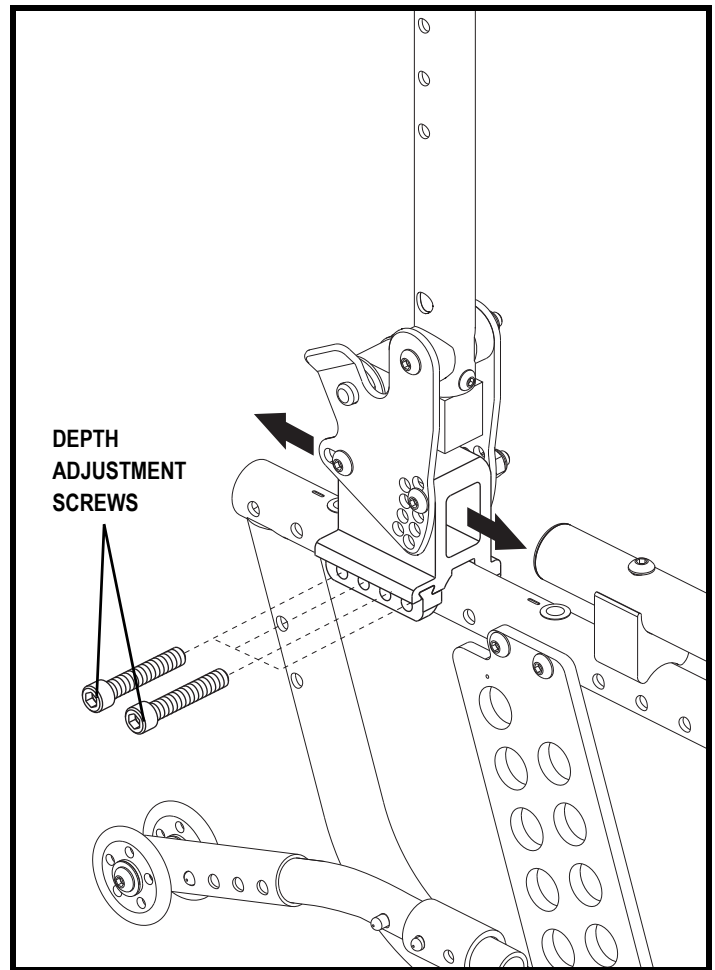

Figure 15. Side Frame Depth Adjustment
1. Remove the depth adjustment screws that attach the back cane to the side frame on both sides of the wheelchair. See figure 15.